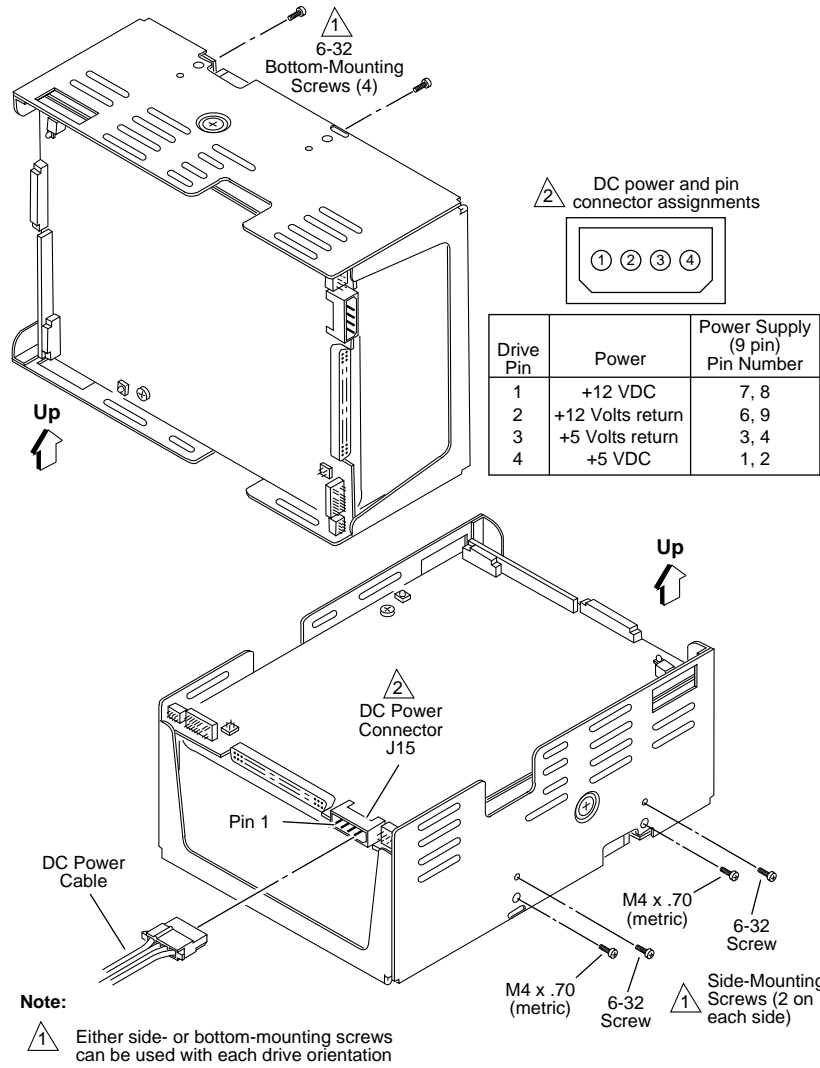

Figure 14. Mounting the drive (ST43401N/ND shown)
The drive may be secured to the enclosure using the tapped holes in either the sides or the bottom of the drive chassis. Figure 14 shows two of the three allowable orientations.
1. Place the drive into position in the enclosure and secure with four screws as shown in Figure 14.